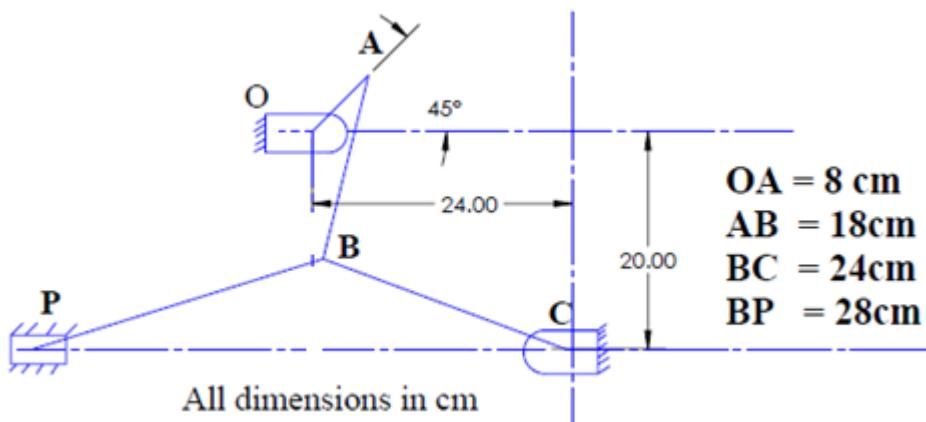

Fig. 1
- a. List the inversions of the single slider mechanism and explain the working of the oscillating cylinder engine mechanism. (05)
- b. Compare Ackermann and Davis steering gear mechanism. (05)
- c. Compare involute and cycloidal gear teeth profiles. (05)
- d. Compare open and cross belt drive belt arrangements (05)
- e. Derive an expression for Coriolis component of acceleration. (05)
**II a.** The mechanism shown in fig.1 in which crank OA rotates in clockwise direction at uniform speed at 200 rpm. Determine the velocity and acceleration of slider 'P'.